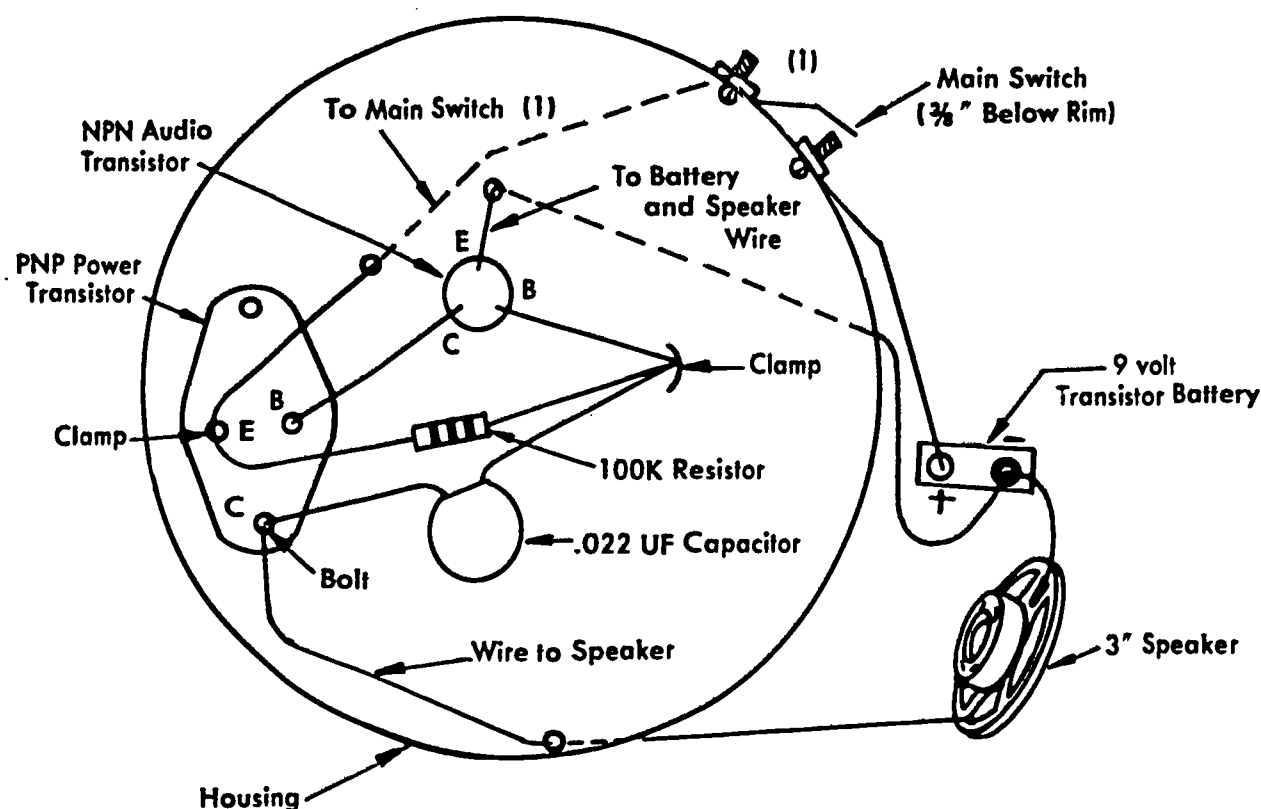

Fig. 61-9. Circuit Board Front View
Procedures (Study Figs. 61-9 through 14)
1. Reproduce and cut out circuit board. See Fig. 61-9. Glue circuit board to the $3\frac{1}{16}$ " cardboard disc.